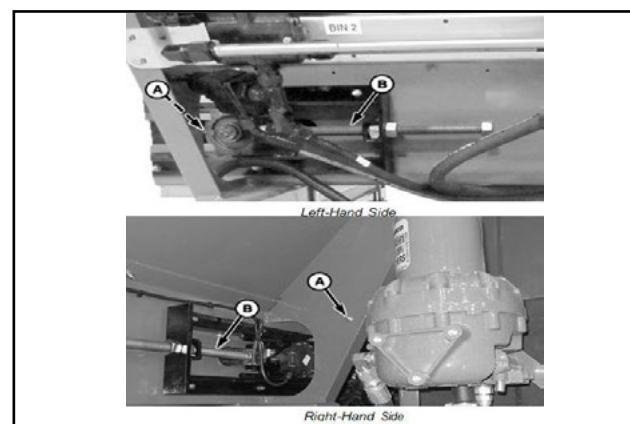

Figure 15 - Idler Shaft Bearings & Adjusting Screws
Lubricate the front idler bearing (A) and adjusting screws (B) weekly using a grease gun at fittings. Hand grease threads of adjusting screws as shown in Figure 15.